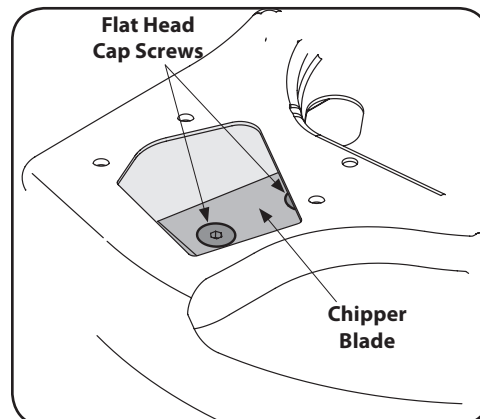

Figure 5-8
9. Using a 3/16" allen wrench, remove the flat head cap screws that hold the chipper blade to the impeller. These screws are accessible through the opening created when the chipper chute was removed earlier. See Figure 5-8.